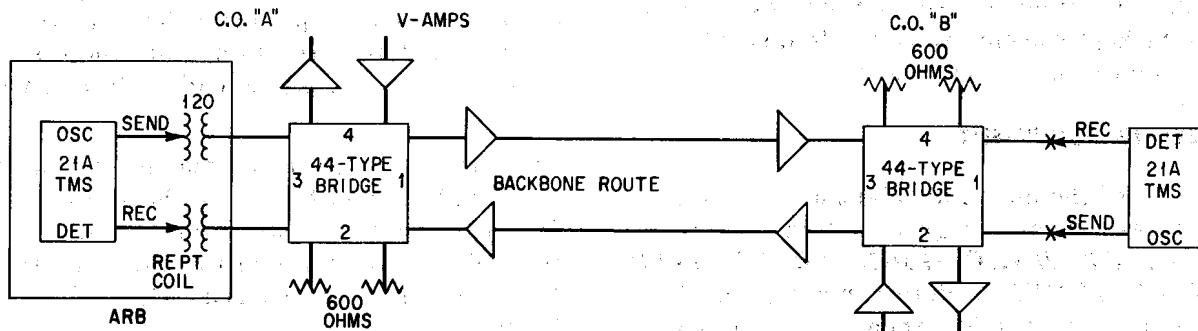

Fig. 2 — Testing Arrangement for Response of Backbone Route
ARB headquarters. If the route is split, measurements should also be made from the most remote central office on the branch. Measurements should be made in accordance with Fig. 2 which is a typical testing arrangement. **ALL BRIDGING CIRCUITS AND LOOPS SHOULD BE CONNECTED NORMAL BEFORE MAKING THE TEST.**
5.02 Chart I outlines the procedure for making frequency response measurements on the backbone route. While Fig. 2 shows a 21A TMS, other sets recommended in Part 2 may also be used. This means that the procedure set forth in Chart I may have to be revised slightly depending on the test sets used.